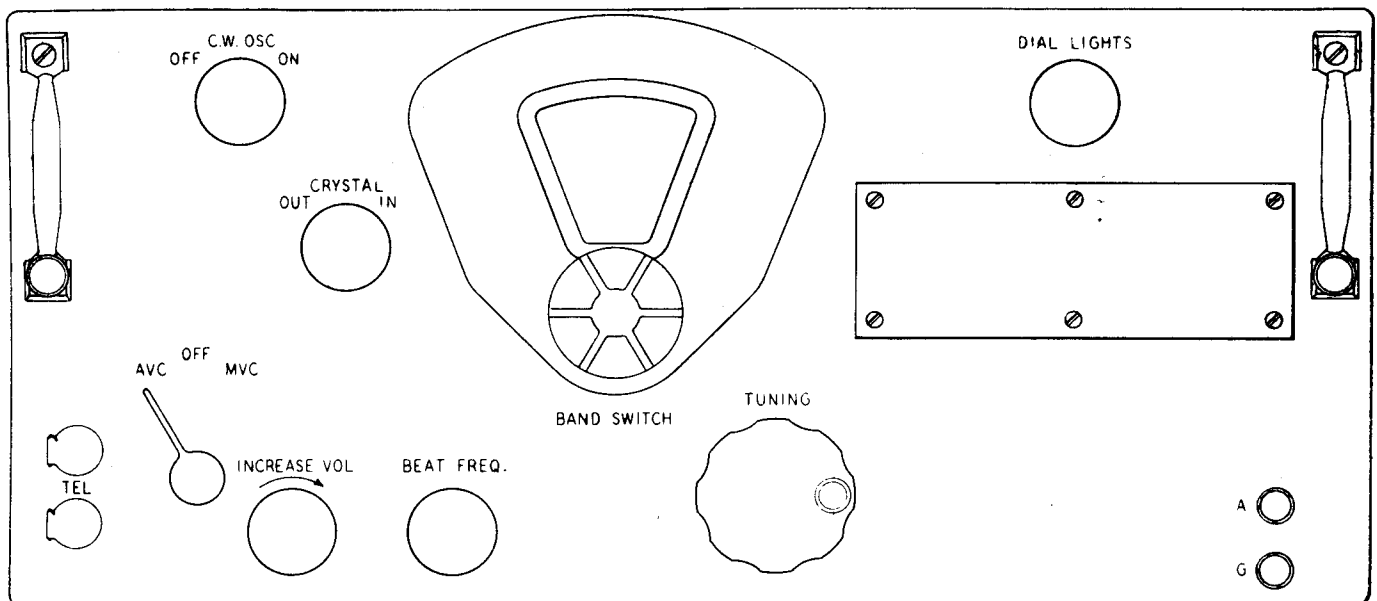

Figure 3 — Radio Receiver BC-348-J, View of Front Panel
- (1) Check the connections at the aircraft power supply.
- (2) Check the connections at the transmitter relay.
- (3) Check the connections at the interphone system, if used.
- (4) Check the power connections to auxiliary equipment, if used.
- (5) Check the antenna and ground connections.
(6) Make sure the thumbscrew rods holding the chassis in the cabinet are tight.
(7) Make sure the snapsides are locked and secured with safety wire.
b. CONTROLS.—The operator should become thoroughly familiar with the controls on the front panel (see Figure 3) and their function before beginning the operating test.
(1) AVC-OFF-MVC. — Power to the receiver is controlled by the AVC-OFF-MVC receiver switch. With this switch in the OFF position, no power is supplied to the receiver. When switched to either the MVC or AVC position, power from the primary source is supplied to the tube heaters and dynamotor, placing the equipment in operation. The screen grid voltage supply leads are carried out of the receiver through the power plug to the keying relay of the associated transmitter where the circuit is opened when actually transmitting. (See Section II, paragraph 13b).
(2) DIAL LIGHTS. — The brilliancy of the dial illumination is controlled by this knob. The dial lamps may be adjusted for any desired degree of illumination or turned off completely.
(3) BAND SWITCH. — The frequency band in which the receiver is operating is indicated on the dial mask visible through the dial window. This band may be changed to any desired frequency band by turning the band switch control.